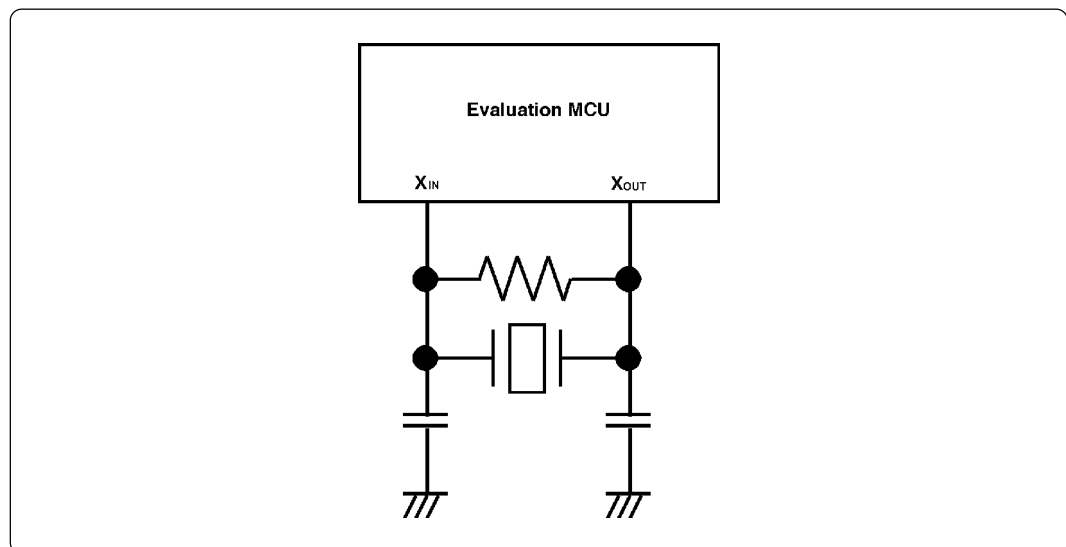

Figure 3.5 Circuit in which oscillation does not occur (same for X_{CIN} - X_{COUT})
- Make note of the fact that in the oscillator circuit shown in Figure 3.5 where a resonator is connected between the X_{IN} and X_{OUT} pins, oscillation does not occur because a flexible cable, pitch converter board and other devices are used between the evaluation MCU and the target system. It is same for sub-clock oscillator circuits (X_{CIN} and X_{COUT}).
(2) Changing the Internal Oscillator Circuit of the Emulation Pod